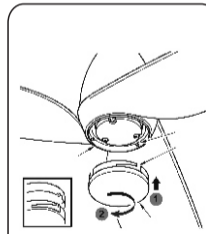

Fig.25
Step 6: Align the slot of the light shade with the aised dimple on the light kit plate and turn it clockwise until it stops.(Fig. 25)